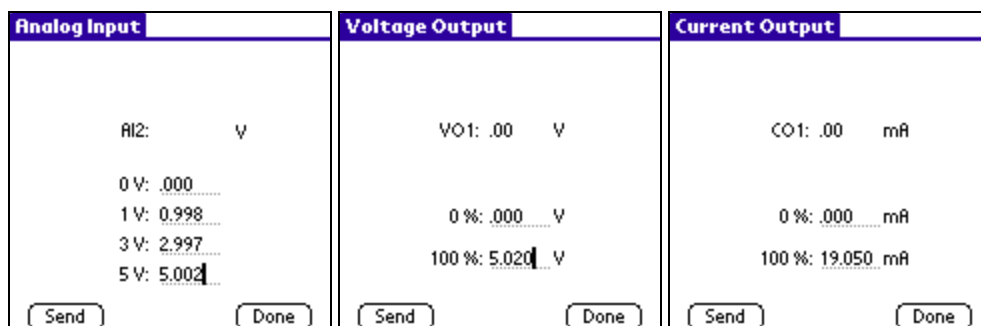

Figure 18
2. Enter the correct reading for each point (Figure 18).